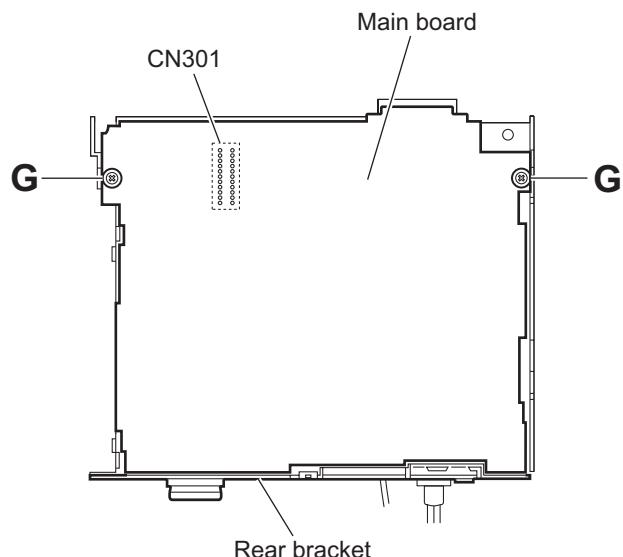

Fig.6
- (2) Remove the two screws **G** attaching the main board. (See Fig.6)
- (3) Disconnect the connector **CN301** on the main board from the main body and take out the main board with the rear bracket. (See Fig.6)